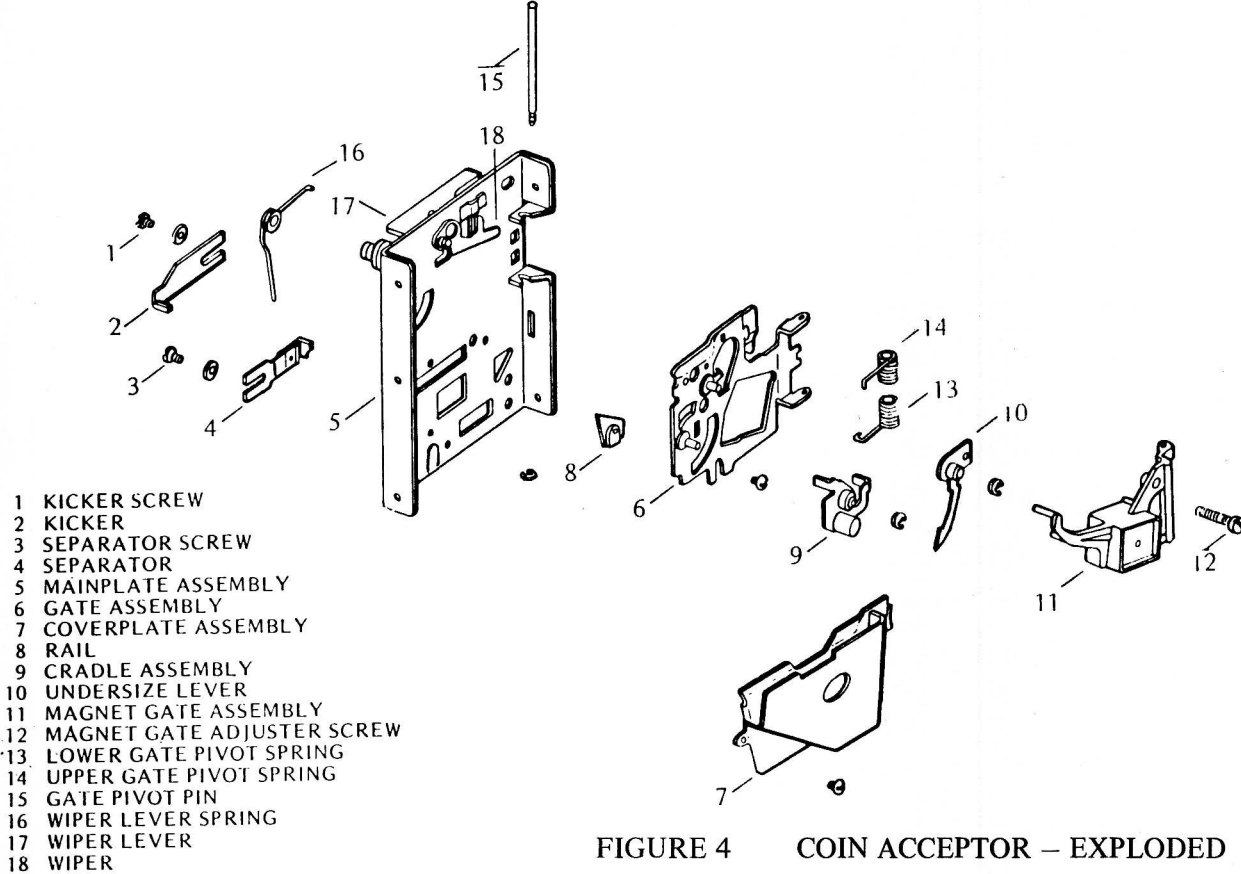

FIGURE 4 COIN ACCEPTOR — EXPLODED
The transfer cradle (#9 in Figure 4) is used to test both the size and weight of the coin. The quarter must first pivot an "undersize" lever (10) to unlock the transfer cradle. Undersize "quarters" will fail to unlock the transfer cradle and can be returned by actuating the wiper operating lever (17). Oversize diameter coins will fail to pass between the transfer cradle and the wiper and can be returned by operating the wiper lever.